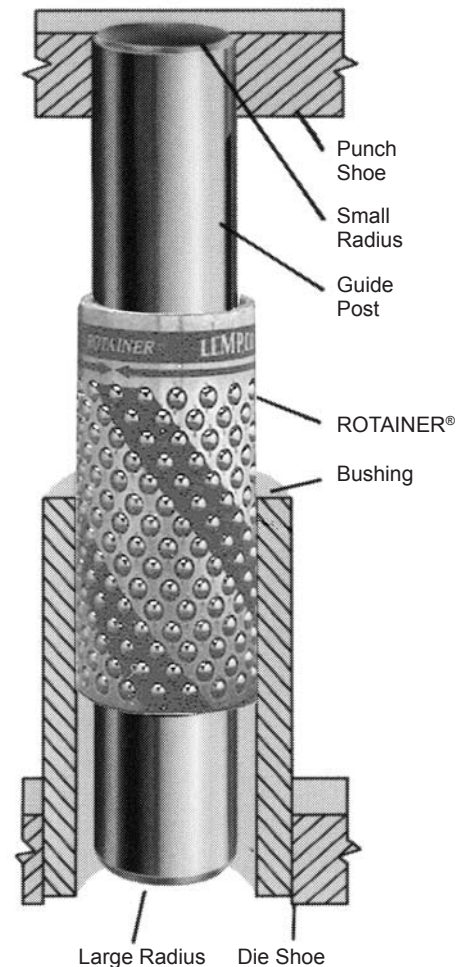

FIGURE 1
FIGURE 1 represents a typical guide post and ROTAINER®. Please note that the end of the guide post with the *small* radius is press fit into the punch shoe, and that the ROTAINER® is assembled with the ROTAINER® slide assembly toward the same end of the guide post. On the bushing, however, the end with the *large* outside diameter radius is press fit into the die shoe.
Assemble ROTAINER® to guide post (FIGURE 1) by screwing the set screw in until flush with special ROTAINER® slide. Vertical and rotational movement should now be tested to insure freedom of movement. After testing is completed, stake set screw. Lubricate only with a light spindle oil.
2. Minimum Shut Height – See Figure 1.
- A. Lay out die as in Figure 1 (Minimum Shut Height). This determines maximum guide post length and maximum bushing height.
- C. Maximum Open Height (Maximum Shut Height plus Stroke) as in Figure 3 shows minimum guide post engagement in bushing that is required. If this is at least $\frac{3}{4}$ " then conditions are ideal. However, if this dimension is less than $\frac{3}{4}$ " then Figure 4 should be considered. Actual work is done for only a fraction of the total stroke on most dies and if conditions shown in Figure 4 are satisfied in conjunction with Figure 1 and Figure 2, then full length of stroke and maximum open height can be disregarded.